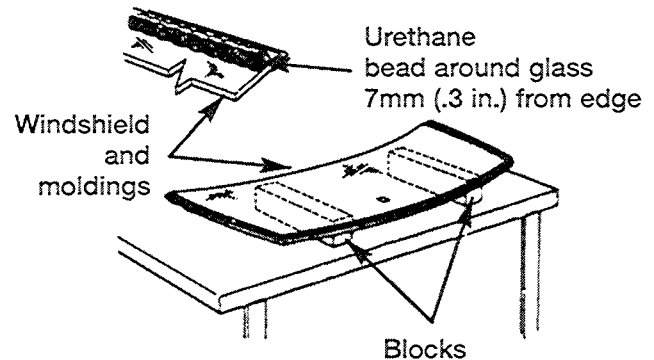

Fig. 4 Work Surface Set Up
2. Position the windshield inside up on a suitable work surface with two padded, wood 10 cm by 10 cm by 50 cm (4 in. by 4 in. by 20 in.) blocks, placed parallel 75 cm (2.5 ft.) apart (Fig. 4).